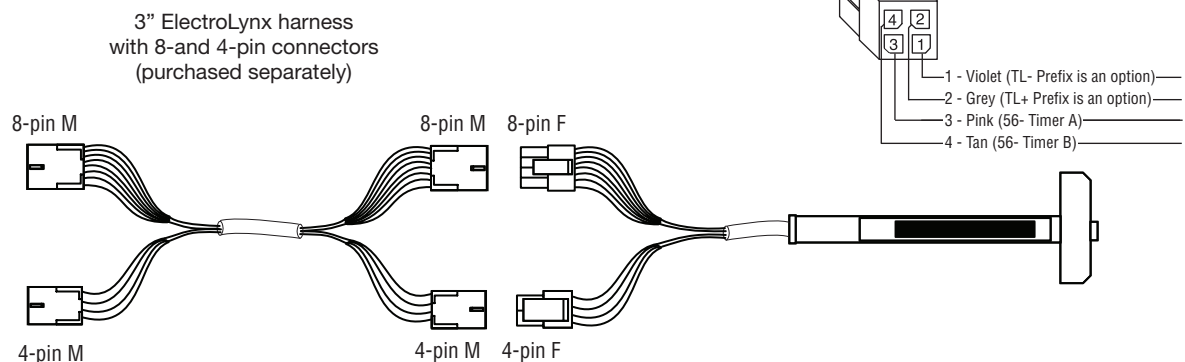

Fig. 16 ElectroLynx TIMER MODE Wiring
2. Ensure DIP Switch switch (position 3) disables **POWER MODE** (Fig. 16). Set to **OFF** to disable.